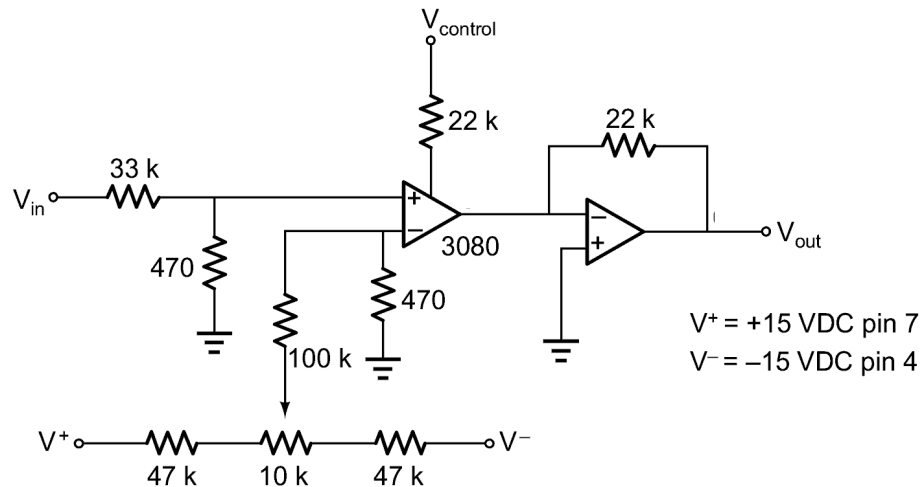

Figure 1
1. Assemble the circuit of Figure 1. Note that the power supplies are only ± 5 VDC, not the usual ± 15 VDC.